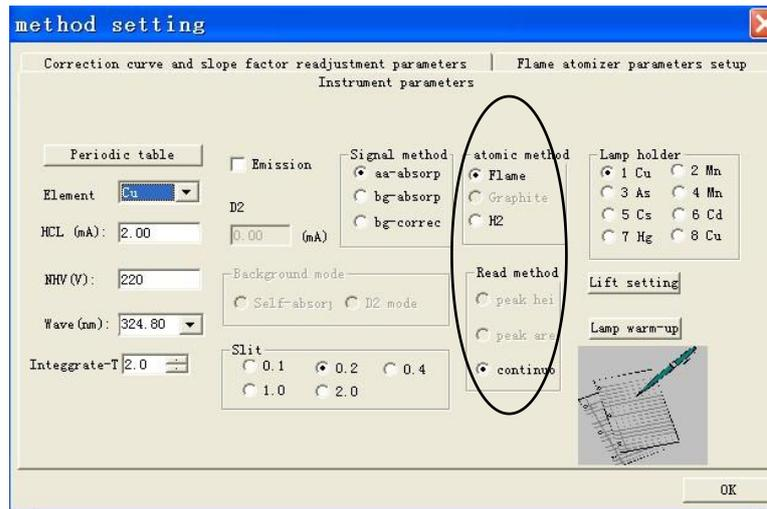

Figure 4-29
16. Reading types: Three types of readings are available, peak height, peak area and continuous type, as shown in Figure 4-29, which can be selected depending on different tests.